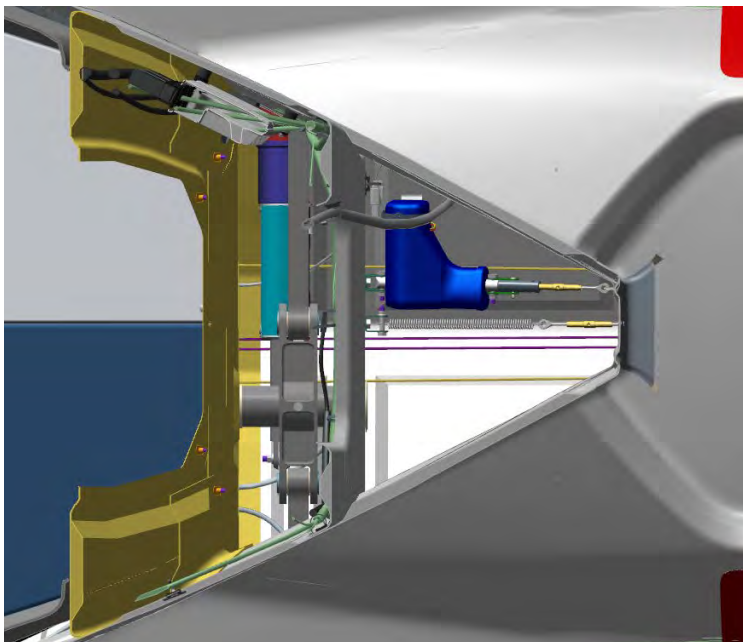

FIGURE 10-32
4. From within the AFT bulkhead baggage access window, use a tensiometer (cable thickness = 1/8 in) to measure elevator cable tension. (Figure 10-32) Ensure they are within 20-35 lb_f of tension. Refer to the manufacturers' calibration card to correctly read cable tension for the cable diameter.